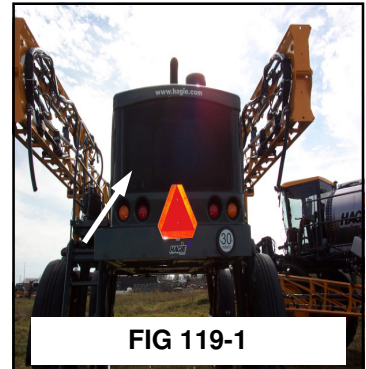

FIG 119-1
**RADIATOR SCREEN**– In order to maintain air flow through the engine cooling system’s radiator, oil cooler, and air conditioning condenser, the cooling air intake grille (fig. 119-1) must be inspected often and periodically cleaned.